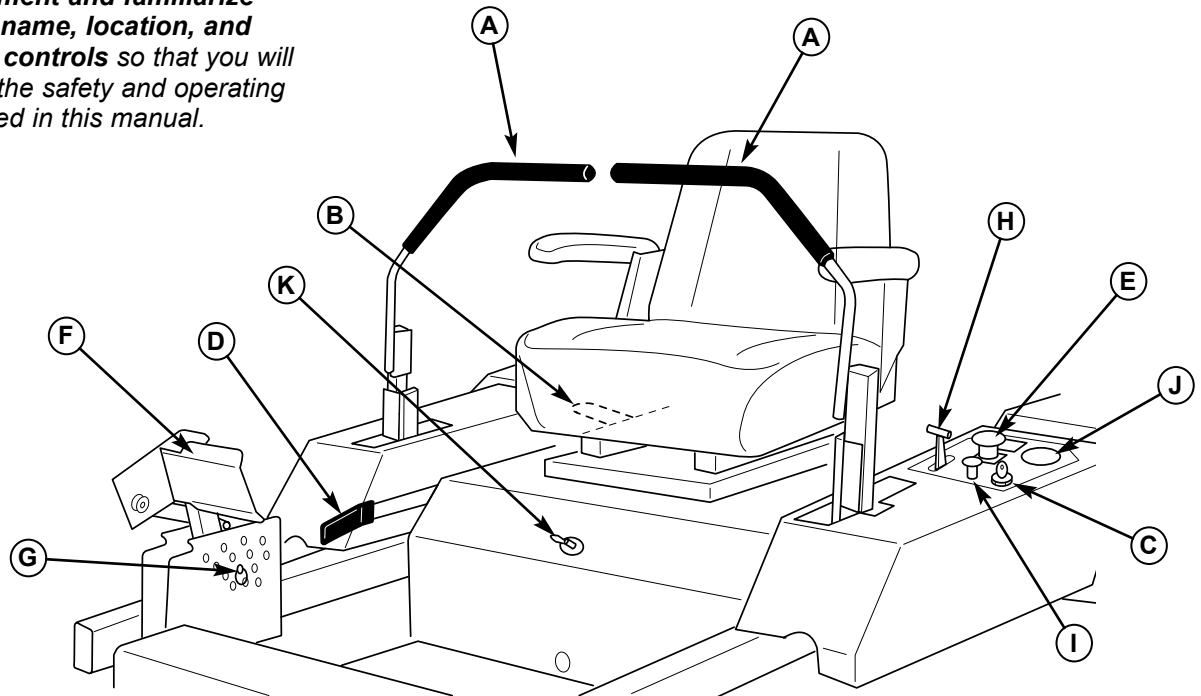

Figure 1. Control Locations
2. **NOTE: A warm engine may not require choking.** Set the engine throttle control (H, Figure 1) to FAST throttle position. Then fully close the choke (I, Figure 1) by pulling the knob OUT fully.
3. Insert the key into the ignition switch (C, Figure 1) and turn it to START.
1. Returning the ground speed control levers (A, Figure 1) to the middle position will stop tractor movement. Pivot the levers outward and lock them in NEUTRAL.
2. Disengage the PTO by pushing down on the PTO switch (E, Figure 1).
3. Engage the parking brake by pulling the handle (D, Figure 1) up until it locks into position.
4. Move the throttle control (H, Figure 1) to mid-throttle position and turn the ignition key to OFF. Remove the key.
5. Engage the PTO by pulling up on the PTO switch (E, Figure 1).